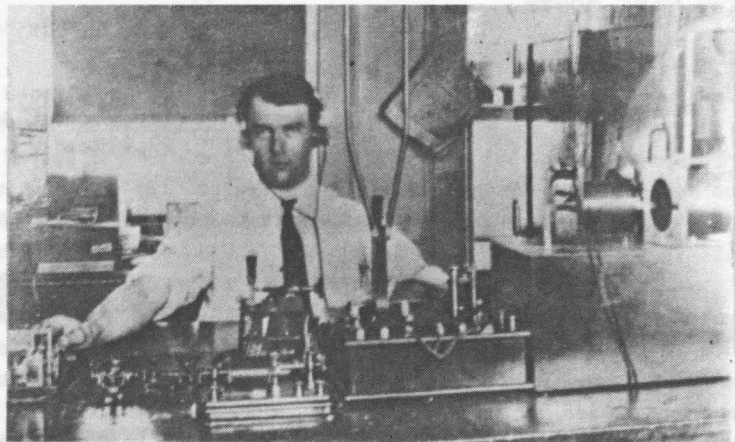

Fig. 12. Pickerill and "Bug" at "WA".
However, one successful experiment was conducted with a Vibroplex, in 1909, by E.N. Pickerill at the Waldorf-Astoria station "WA" (fig. 12).
- Fig. 12, C.S. Moore.